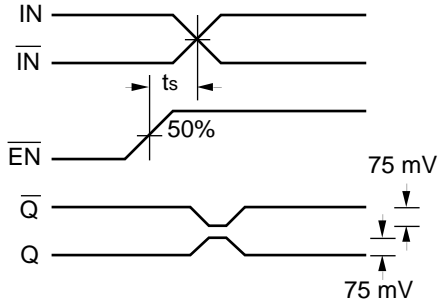

Figure 1. Set-up Time
- The set-up time is the minimum time that \overline{EN} must be asserted prior to the next transition of IN/ \overline{IN} to prevent an output response greater than ± 75 mV to that IN/ \overline{IN} transition (see Figure 1).